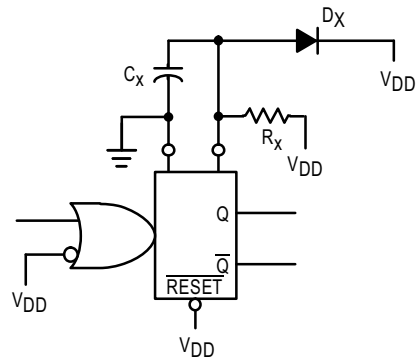

Figure 9. Use of a Diode to Limit Power Down Current Surge
*If $C_X > 15 \mu\text{F}$, Use Discharge Protection Diode D_X , per Fig. 9.